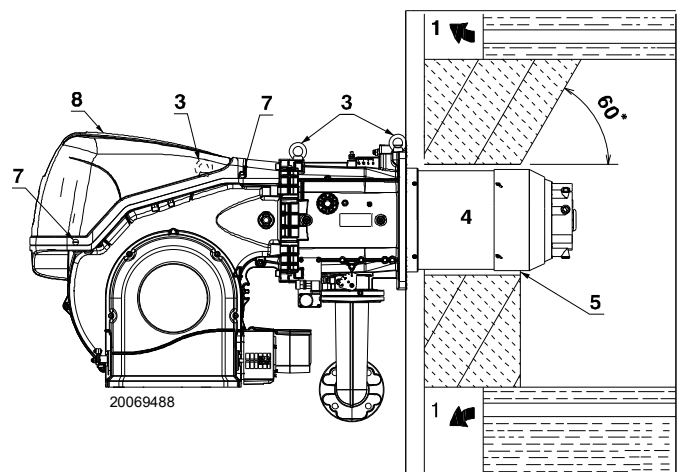

Fig. 14
For boilers with front flue passes 1)(Fig. 14) or flame inversion chamber, a protection in refractory material 5) must be inserted between the boiler fettling 2) and the blast tube 4).
Prepare a suitable lifting system using the rings 3) (Fig. 14), after removing the fixing screws 7) of the casing 8).
- Fit the heat insulation supplied onto the blast tube 4)(Fig. 14).